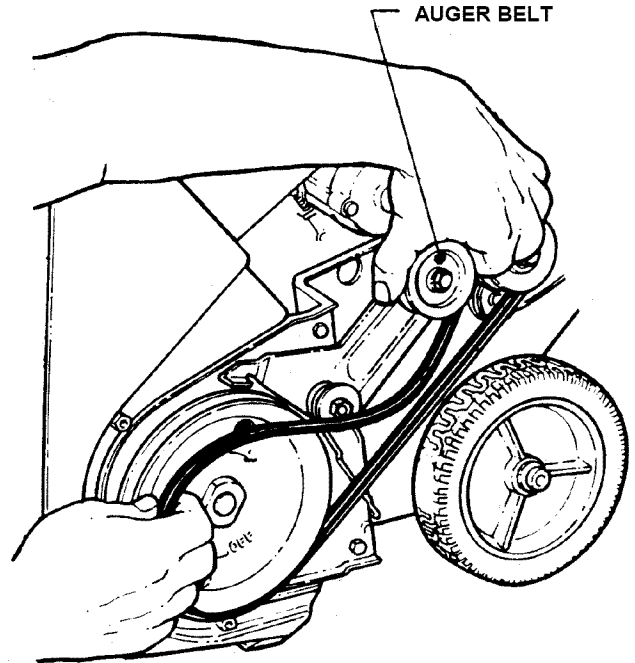

FIGURE 4.5
- Push the spring tensioned idler pulley down and install new belt. See Figure 4.5.